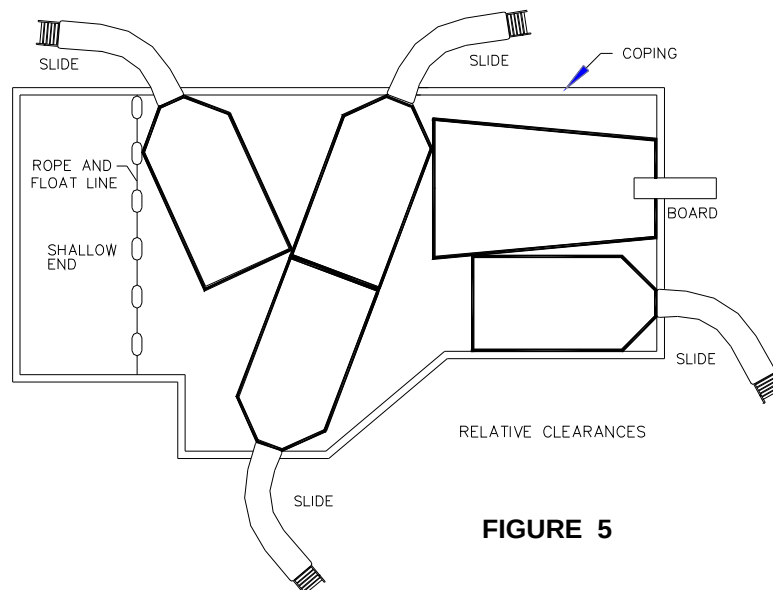

FIGURE 5
2. SLIDE FEET FIRST ONLY AS SHOWN IN FIGURE 5. **DO NOT SLIDE HEAD FIRST**
- B. The minimum clearance area of a slide or diving board shall not intersect any coping or rope and float line as shown in Figure 5. The minimum clearance area of a slide or diving board may intersect each other provided that they are not used simultaneously.